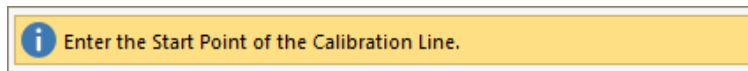

FIGURE 5-4
- Click on the **OK** button. The program will now display a message in the yellow **Message Bar** asking you to *Enter the Start Point of the Calibration Line* as shown in **FIGURE 5-4**.